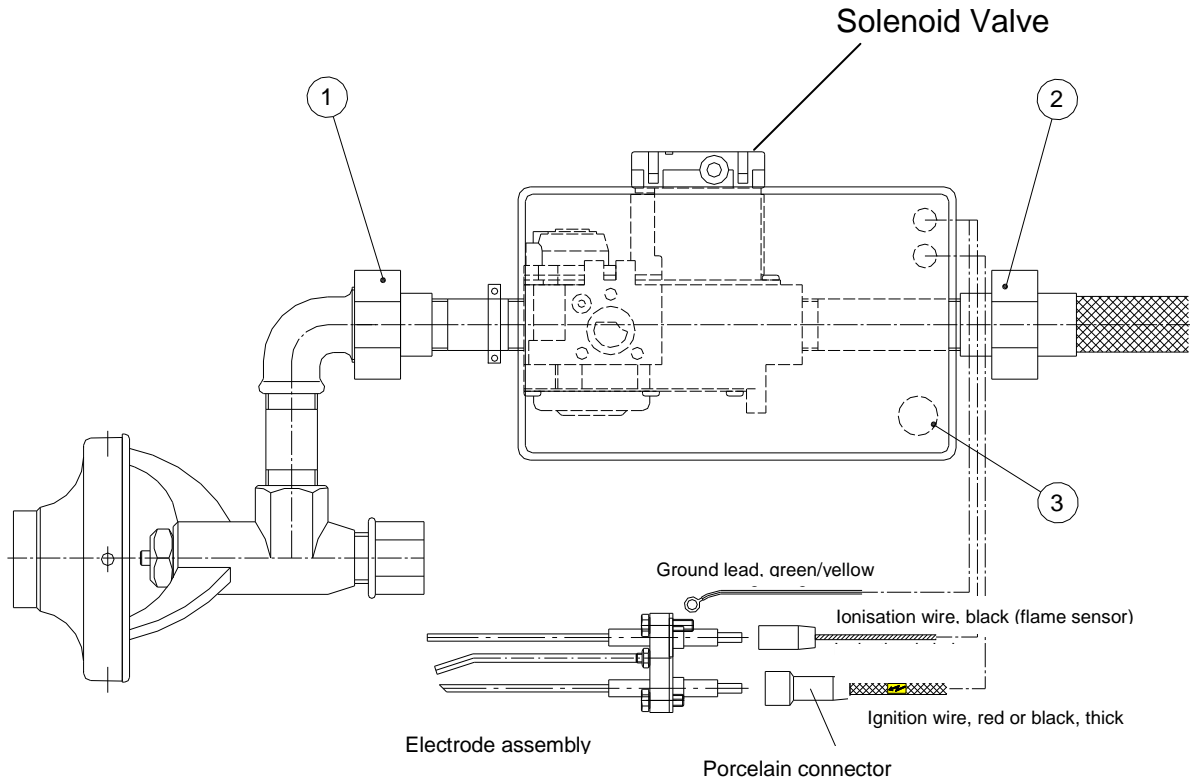

Fig 1. SR 3010-1 (One Stage Layout)
- Tighten the screw connection **(1)** to attach the control unit and gas train (Fig 1&2).
The solenoid and the combination valve are to be installed in the upright position or at max. 90° angle to the screw axes **(1)** and **(2)** (see Fig. 1&2)
The solenoid and the combination valve are to be installed in the upright position or at max. 90° angle to the screw axes **(1)** and **(2)** (see Fig. 1&2).